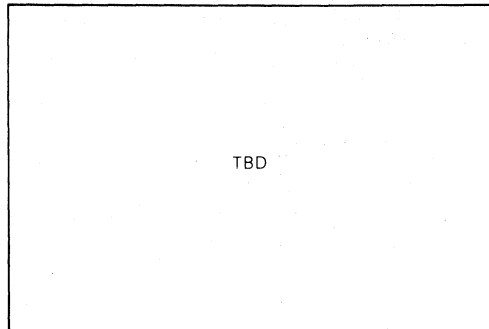

Figure 2-2. Typical Frequency vs Resistance For RC Oscillator Option Only
**2.1.6.2 RC.** If the RC oscillator option is selected, then a resistor is connected to the oscillator pins as shown in Figure 2-1(d). The relationship between R and  $f_{OSC}$  is shown in Figure 2-2.